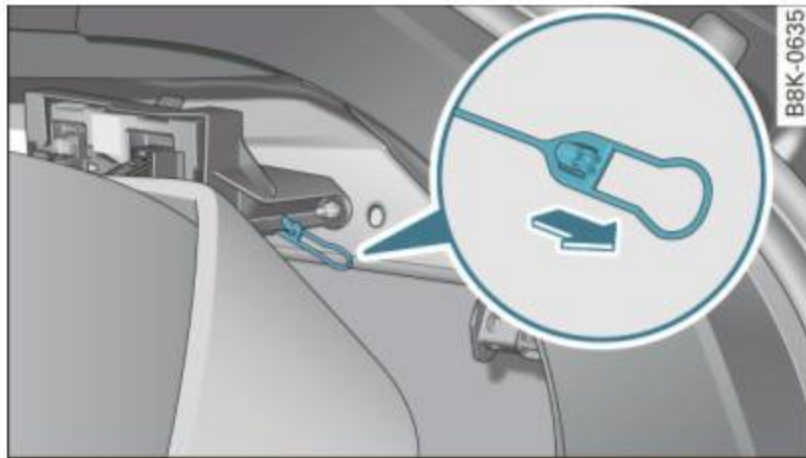

Fig. 209 Luggage compartment: Emergency opening of fuel filler flap
- Loosen the strap from its bracket and pull on it ⇒ fig. 209. Now you can open the fuel filler flap as usual. ■